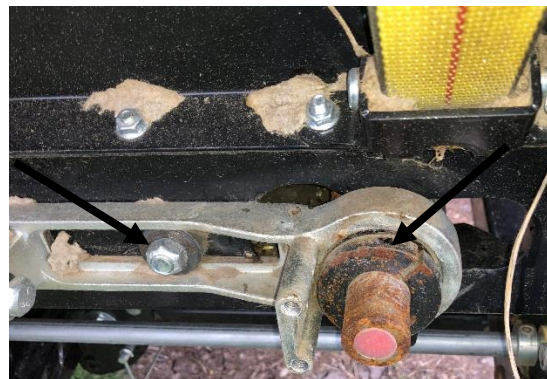

Figure 64
7. Remove the shield and lock collar. Remove the bolts holding the bearing holder and remove the bearing and holder. Figure 64